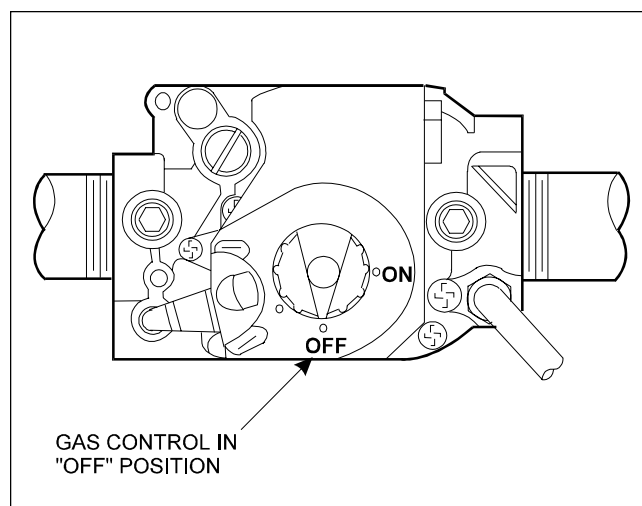

Figure 17. ESC Gas Valve
3. Turn the gas valve control knob counter-clockwise to ON (see Figure 17).